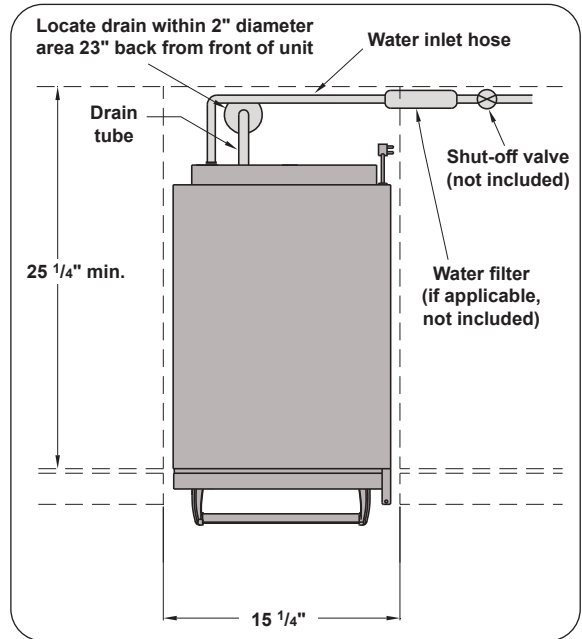

Fig. 10-1 Top view
5. Connect the drain tube (with a diameter of $\frac{5}{8}$ ") to the drain pipe at the rear of the product and secure them together using a hose clamp. See Fig. 10-1 for orientation.